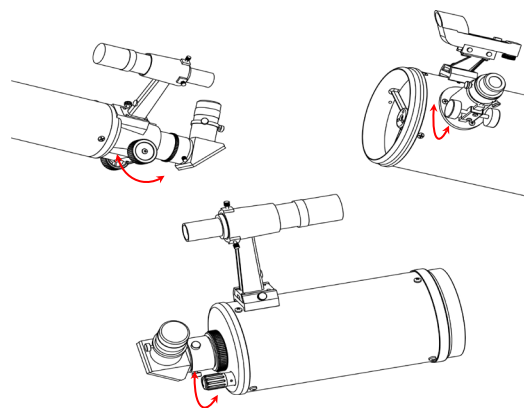

Fig.5.2a
- Slowly turn the focus knobs under the focuser, one way or the other, until the image in the eyepiece is sharp (Fig.5.2a). The image usually has to be finely refocused over time, due to small variations caused by temperature changes, flexures, etc. This often happens with short focal ratio telescopes, particularly when they haven’t yet reached outside temperature. Refocusing is almost always necessary when you change an eyepiece.